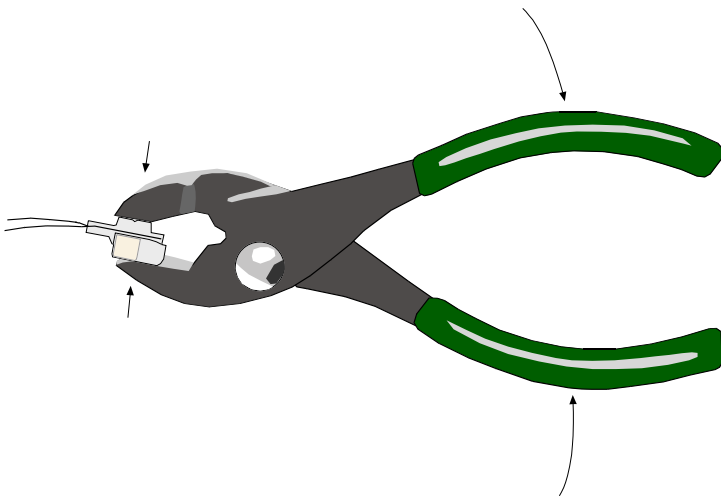

Figure 5 - Clamping the Battery Splice
3. Firmly squeeze the two halves of the splice together using a pair of pliers. See Figure 5 below.